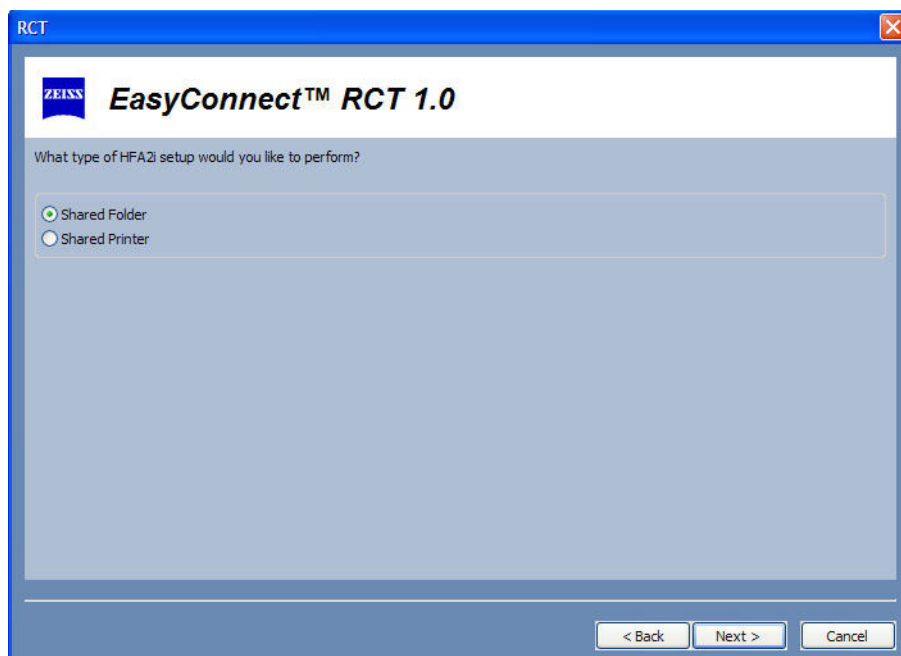

Figure G.6 Select Shared Folder
- 2 Select either the SHARED FOLDER or SHARED PRINTER button (Figure G.6) and then select NEXT to continue. Shared Folder sets up Data Export, EMR/PMS, Archive/Retrieve, and network backup. Shared Printer configures the HFA to use a shared printer connected to the computer.